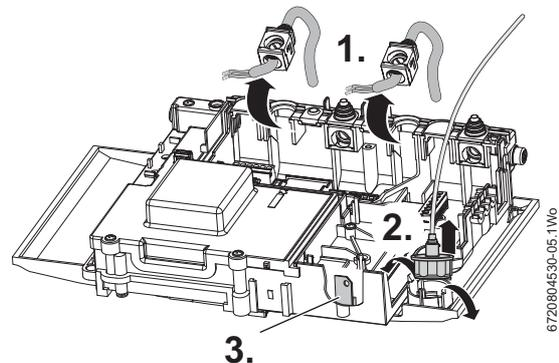

Fig. 117 Replacing the controls (SMPS)
1. Refer to figure 117 and remove all electrical connections from the control PCB including where cables run through restraints. These can be unclipped from the plastic moulding noting their position.